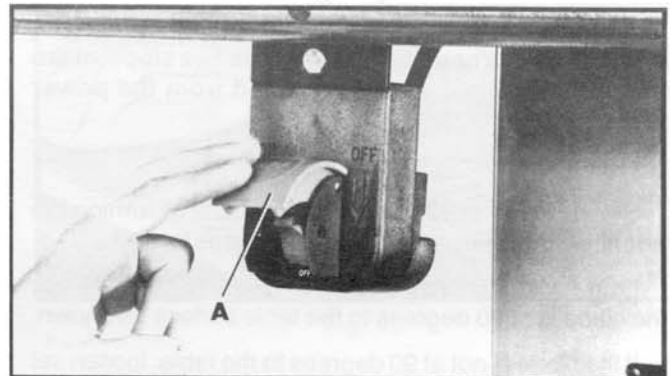

Fig. 41
2. To turn the saw "OFF," simply push down on switch shield (A) Fig. 41.